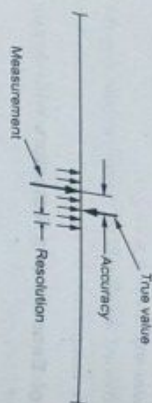

Fig. 5.7.2 Accuracy vs. Resolution
4. **Repeatability / Precision** : The ability of the sensor to output the same value for the same input over a number of trials. Fig. 5.7.2 shows accuracy vs resolution.